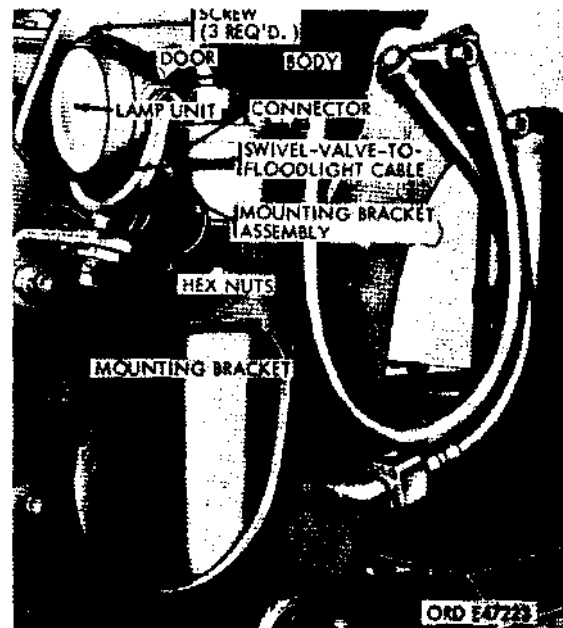

Figure 435. Floodlight mounted on left side of shipper support (M62)
(1) Lamp unit replacement (fig. 435).
- (b) Disconnect two bayonet-type connectors (fig. 435) securing floodlight cables to rear of floodlight.
- (c) Remove two screws securing contact bracket and switch assembly to inside of floodlight body (fig. 435). Remove bracket and switch assembly (with cables) from body.
- (d) Position contact bracket and switch assembly in floodlight body (fig. 435), and secure bracket to body with two screws.
- (e) Connect two floodlight cable bayonet-type connectors (fig. 435) to connectors at rear of flood light.
(4) *Floodlight removal* (floodlight mounted at shipper support, illustrated) (fig. 435).
(5) *Floodlight installation* (floodlight mounted at shipper support, illustrated) (fig. 435).